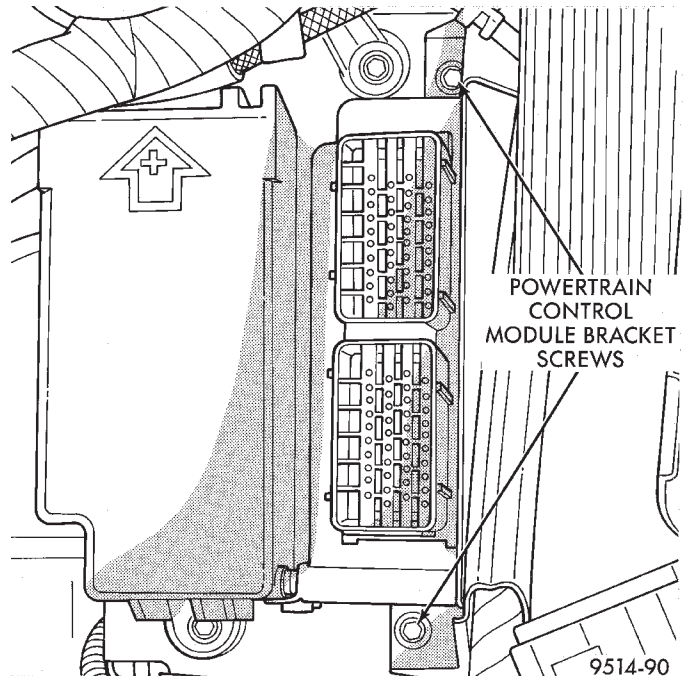

Fig. 89 PCM Bracket Screws
- (2) Disconnect both 40-way connectors from PCM.
- (3) Remove screws attaching PCM to bracket (Fig. 89).
- (4) Lift PCM up to remove it from vehicle.